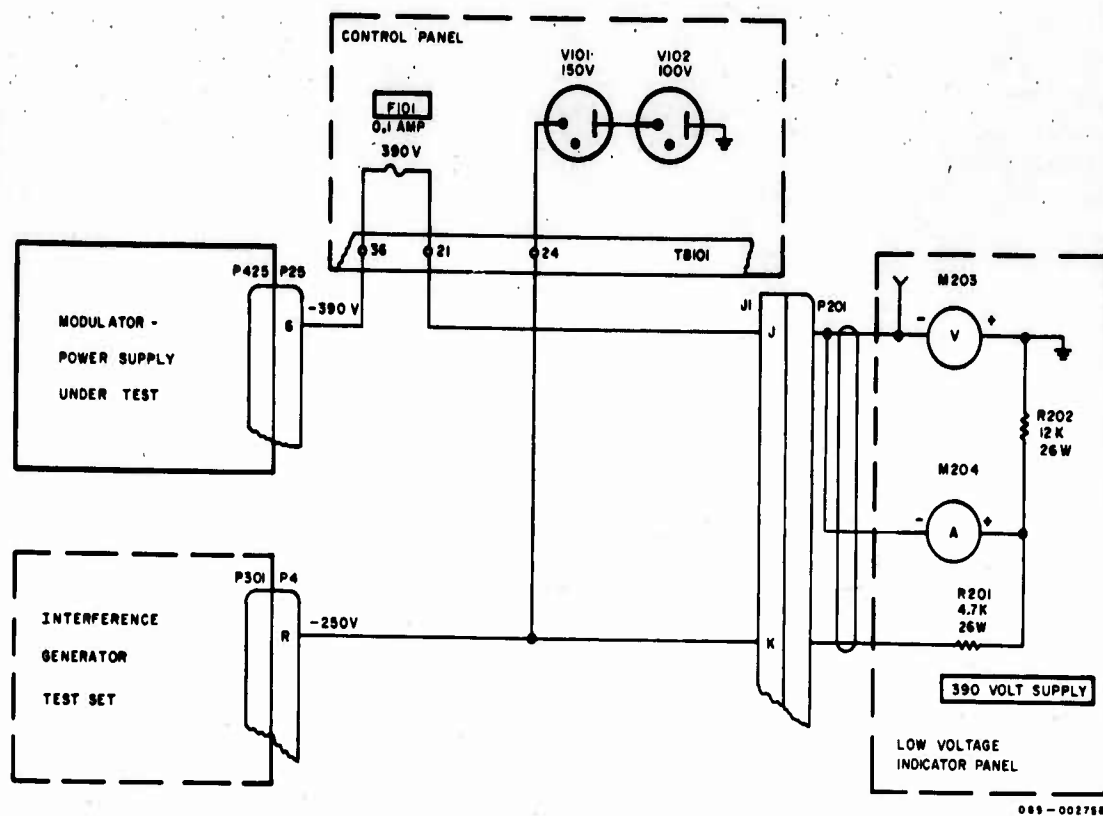

Figure 1-9. 390-Volt Power Supply Test Circuit, Modulator-Power Supply.
1-77. 390-VOLT DC POWER SUPPLY TEST. Figure 1-9 is a simplified schematic diagram of the circuit used for testing the 390-volt DC power supply of the modulator-power supply module under test. Meter M203, on the low voltage indicator panel, is a DC voltmeter connected across the 390-volt DC supply. Meter M203 measures the total voltage from the negative side of the supply to ground. Meter M204, on the low voltage indicator panel, is a DC milliammeter in series with the supply. Meter M204 measures the load current of the 390-volt DC supply. Two voltage regulator tubes, V101 and V102, simulate the action of the frequency control module of the Barrage Jammer QRC-133A(T) system by regulating the voltage input to the interference generator of the test set at a constant -250 volts. Approximately 140 volts are dropped across M204 and resistor R201. Resistor R202 is a load resistor.